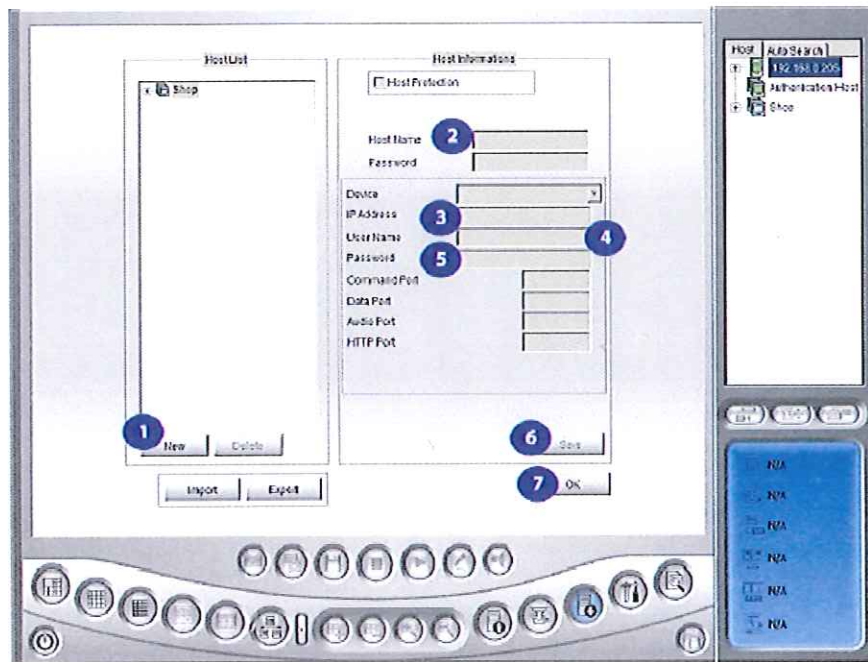

Figure 2.3 – Creating a Single Host
- 2) Click on the New Button (#1, Figure 2.3). Select Host.
- 3) In the IP Address field (#3, Figure 2.3) type in the IP Address of the machine that you want to connect (See your IT Department or call Homeland Safety Systems, Inc. for this information).
- 4) Select the Host Name (#2, Figure 2.3) and name your new host.
- 5) Input the user name and password (issued to you) in the appropriate fields (#4 and #5, Figure 2.3).
- 6) Click Save (#6, Figure 2.3), then OK (#7, Figure 2.3).